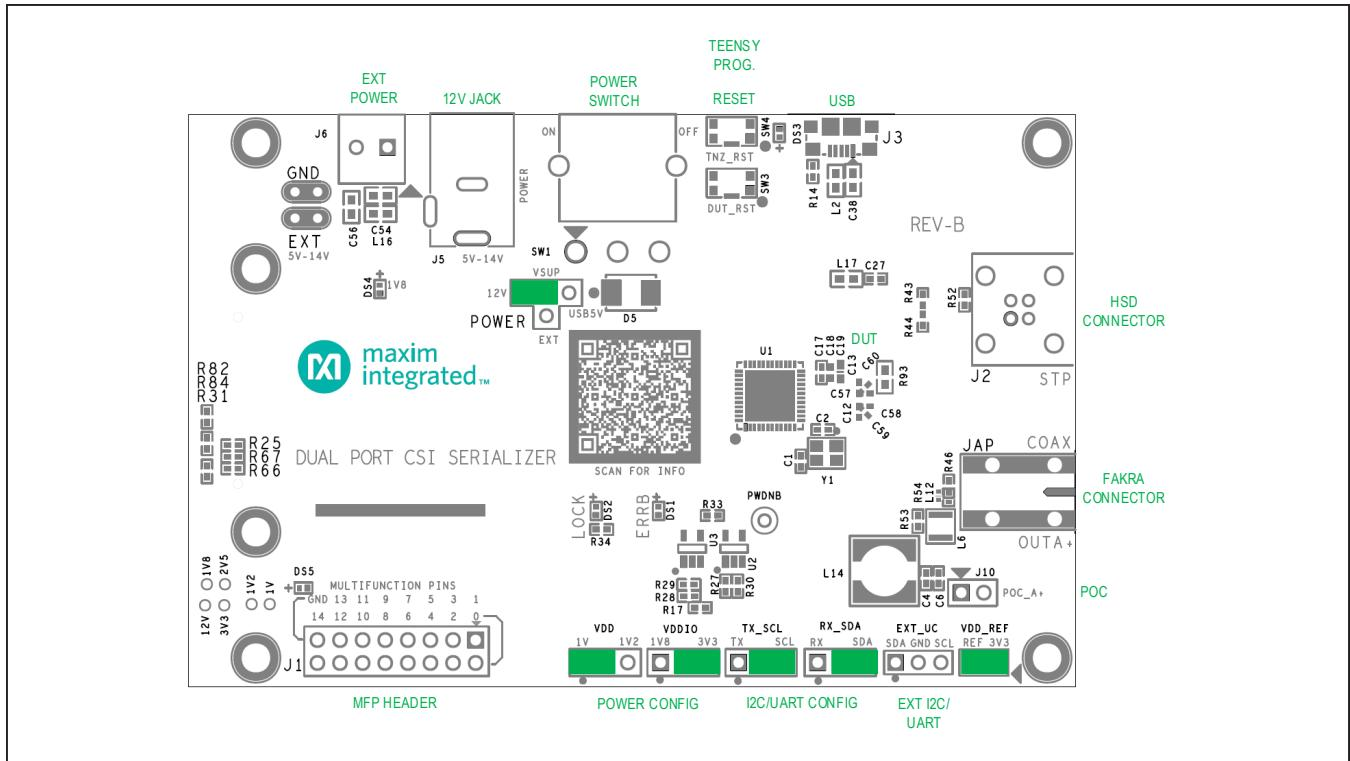

Figure 2. MAX9295D Coax/HSD EV Kit Key Components and Jumper Installation on Front of Board
- 3) Ensure that all jumper positions on the PCB are properly set to meet the requirements of the user's application. Figure 2 and Table 2 show the possible jumper positions for various configurations. The default jumper settings put the device under test (DUT) into I²C mode, select 3.3V as the V_{DDIO} voltage, select